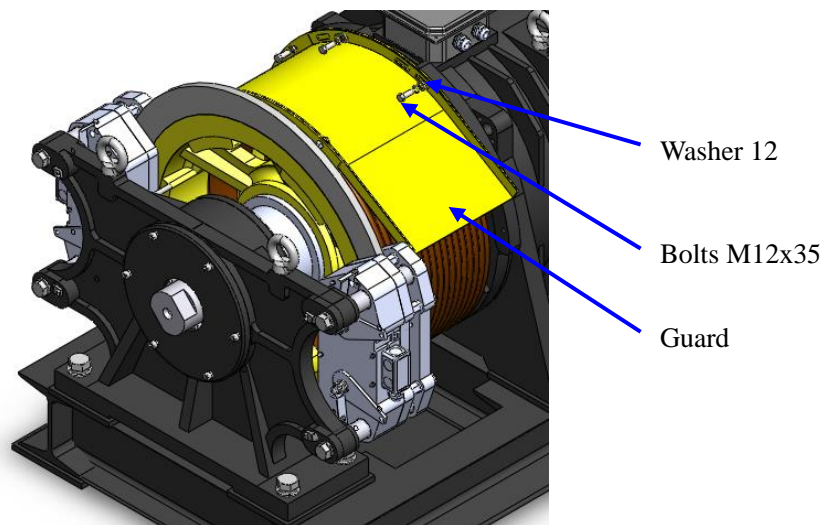

Figure 93: Install Guard
16. Install the ropes and guards. See Figures 93 and 94.